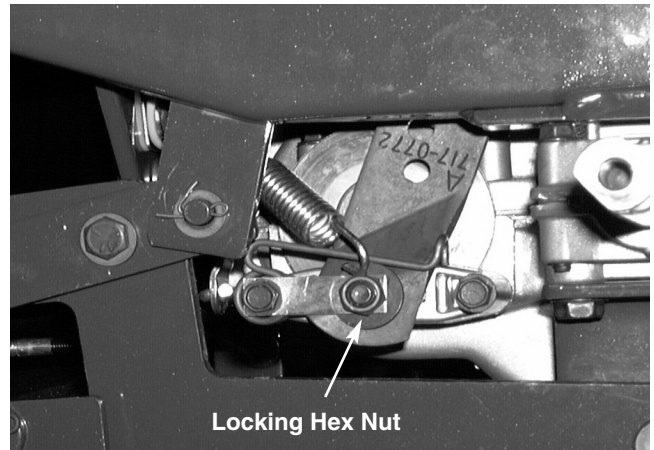

FIGURE 8.
- 10). Pull the brake actuation arm forward and remove the brake cable spring from the brake actuation arm. See figure 8.